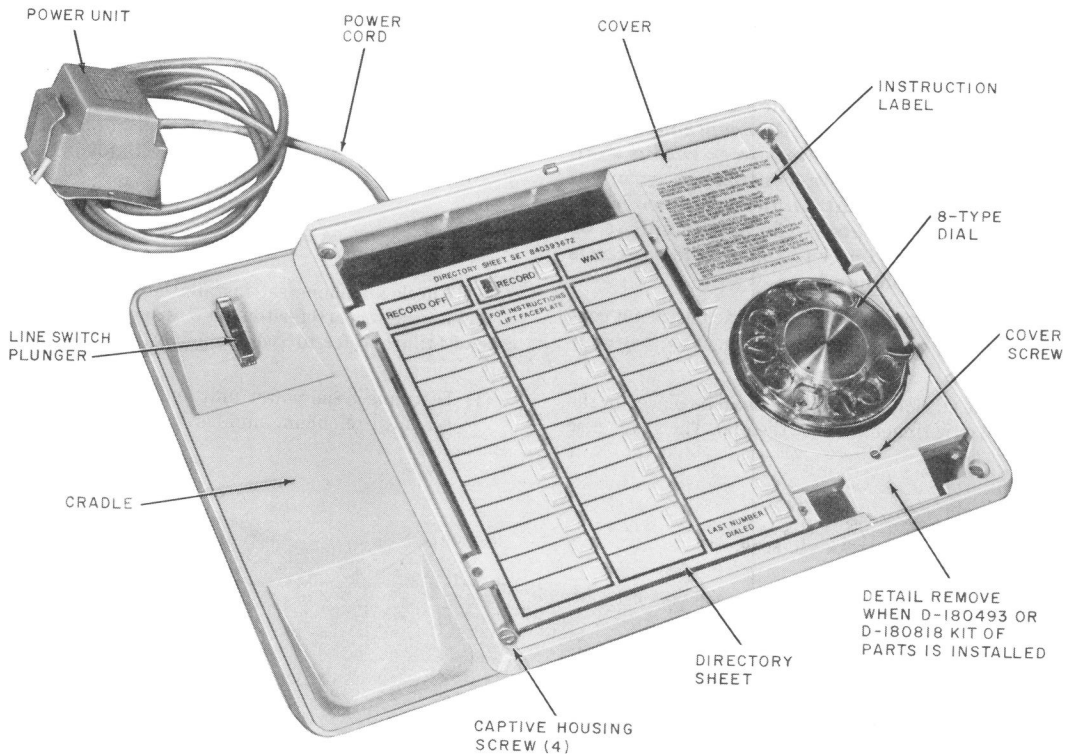

Fig. 2—870A2M Telephone Set—Faceplate and Handset Removed
**3.05** The directory sheets (Fig. 2) fit over the buttons of the Memory and are held in place by the faceplate. Additional sheets are available in the directory sheet set, 840393672.
- (3) Lock the board into position by inserting the accompanying self-threading screw through the right side of the chassis.
- (4) Mount the one-touch calling switch below the dial with the two screws provided.
- (5) Make connections per Table C or E.
- (6) Break off the detail at the bottom of the cover (Fig. 2) and trim edge as required.
- (7) Verify correct operation of option.
- (8) Reassemble set.